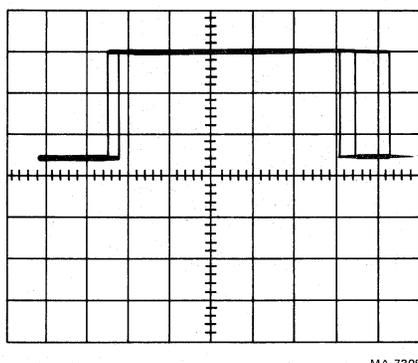

Figure 6-44 +VAM AMTIE Threshold Voltage
- f. The +VAM AMTIE threshold signal shown on the scope should be similar to Figure 6-44. The voltage goes from +4.5 Vdc, ± 0.5 Vdc to +10 Vdc, ± 0.5 Vdc.